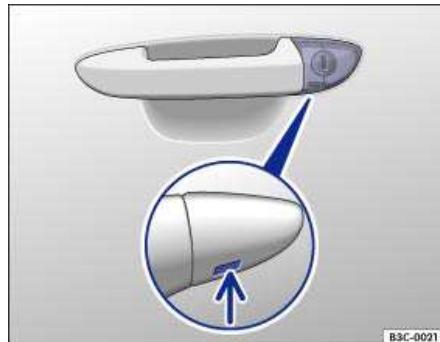

Fig. 328 Door handle on driver door: Concealed lock cylinder.
- Insert the emergency key from below into the opening of the cover cap on the driver door ⇒ fig. 328 (arrow) and lift the cover cap off. Grasping the door handle and pulling slightly makes it easier to remove the cap.